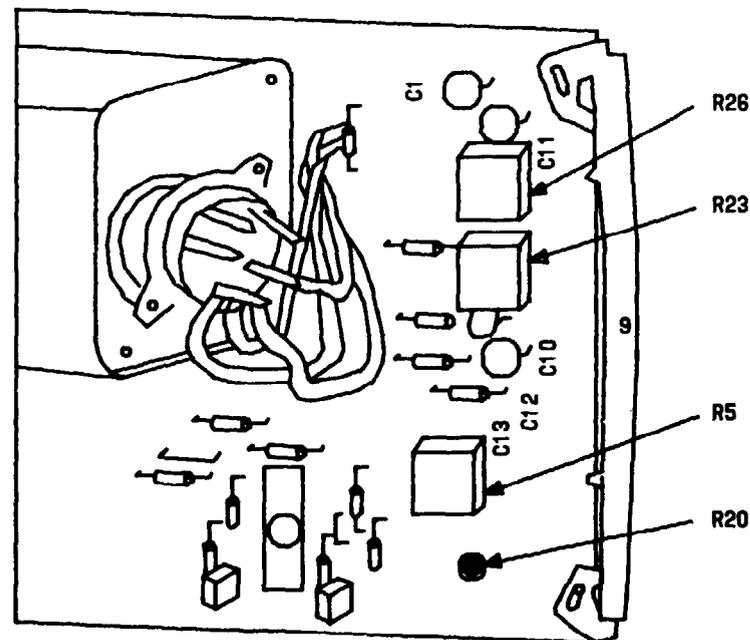

FIG. 2
- [18] SEE FIG. 2. LOCATE R23 ON 1.5-MHZ OSCILLATOR/RF ON BOARD
[37] SEE FIG. 2. LOCATE R26 ON 1.5-MHZ OSCILLATOR/RF ON BOARD